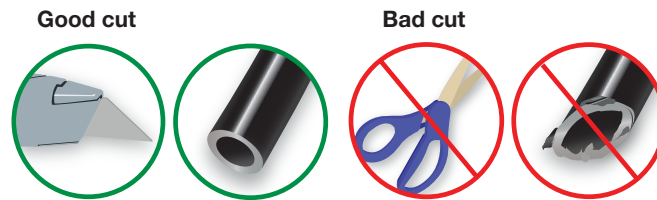

fig. 14
2. Make clean, square cuts with a razor blade or hose cutter (Fig. 14). Do not use scissors or wire cutters.